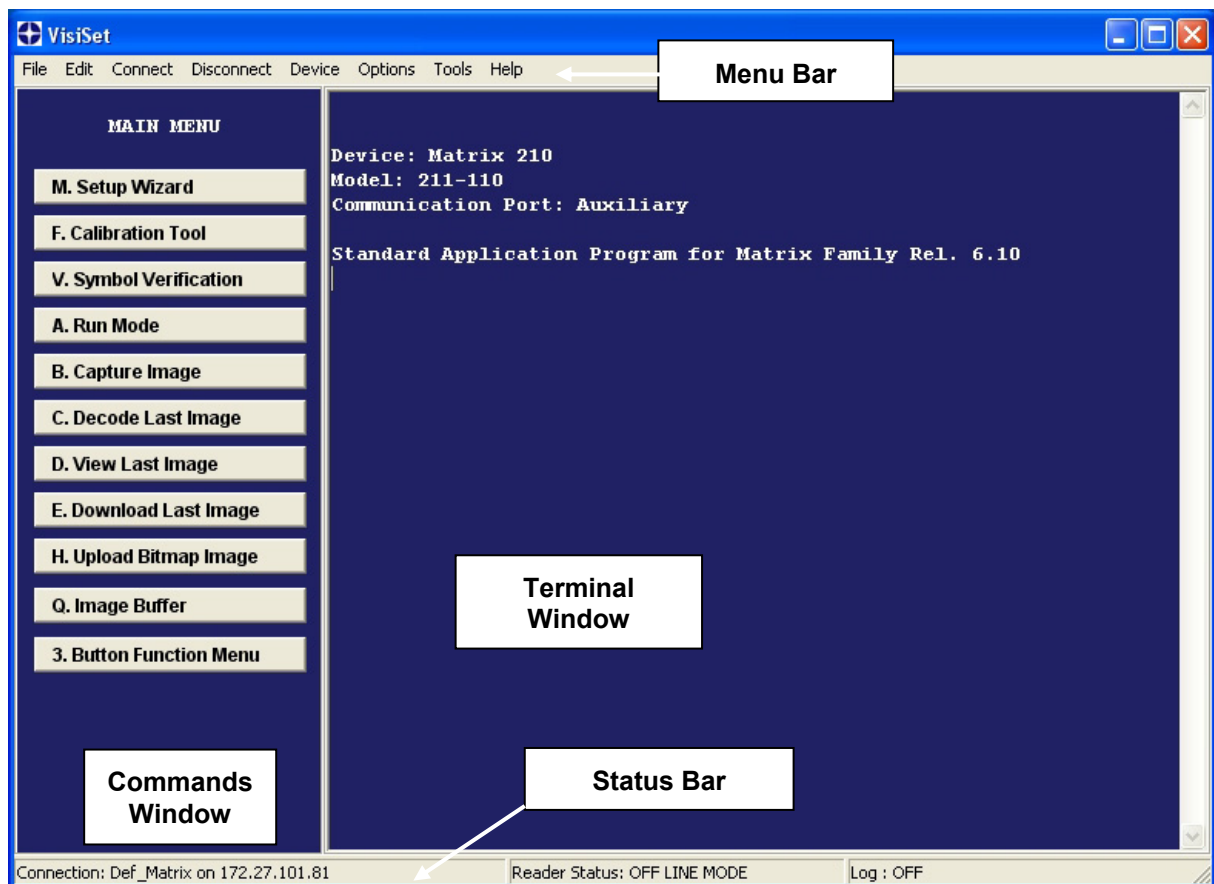

Figure 108 - Main Window
Upon connection, Matrix 210™ exits Run Mode and displays the Main Menu on VisiSet™ with all the commands necessary to monitor your reader's performance. You can select these commands using the mouse or by pressing the key corresponding to the letter shown on the button. See Figure 108.
The **Options** item from the VisiSet™ menu (see Figure 108) presents a window allowing you to configure:
6. Close the Parameter Setup window and press **Disconnect** on the VisiSet™ menu bar (see Figure 108) or launch **Run** Mode from the VisiSet™ Main menu.